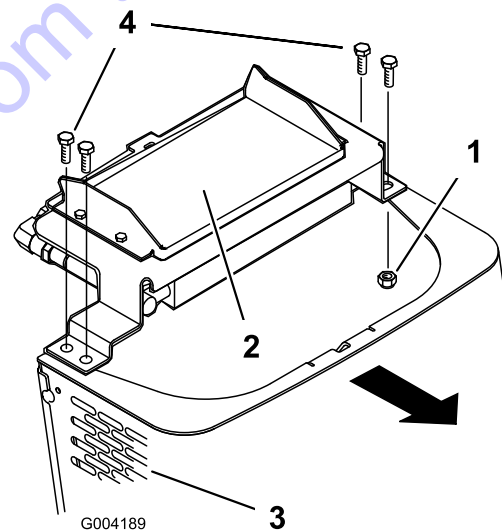

Figure 29
6. Remove the shoulder bolts and nuts securing the oil cooler to the top of the front screen (Figure 29).